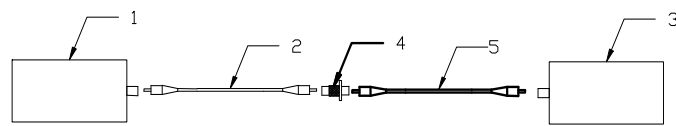

FIGURE A-5 - REFERENCE MEASUREMENT (P1)
- i. CONNECT TWO REFERENCE ST-TO-ST MQJs (DESIGNATED MQJ 1 AND MQJ 2) BETWEEN THE LIGHT SOURCE AND POWER METER. (SEE FIGURE A-5)